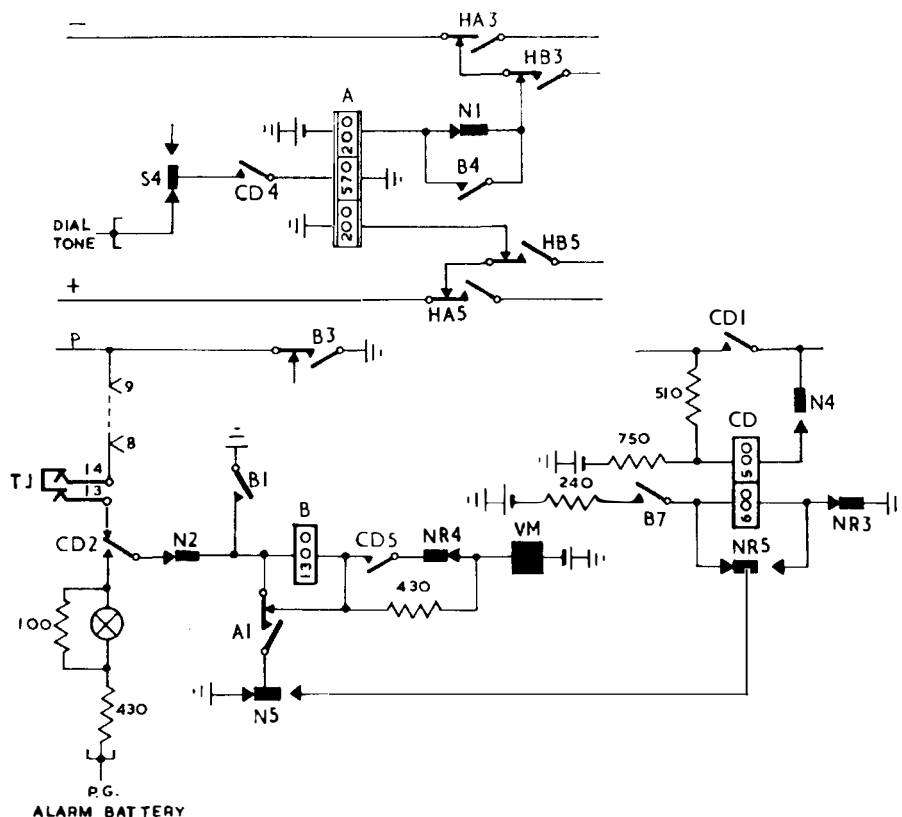

FIG. 13. SEIZURE.
**4.2 SEIZURE.** When the calling loop is extended from the previous selector, relay A operates, A1 operates relay B from battery behind the vertical magnet to earth at N5 and B7 operates relay CD on its 600 ohm winding from earth at NR3 (Fig. 13). On first and incoming selectors the switch supervisory lamp lights from earth at B1 or N5 via CD2 operated contact. A guarding earth is normally applied to the incoming private wire by B3, but if a fast guard is required U8 and U9 may be strapped, allowing earth from N5 to be applied to the private wire immediately the A1 contact operates. On first selectors, contact CD4 connects dial tone to the 570 ohm winding of relay A, where it is induced into the two 200 ohm windings and so to the calling line.